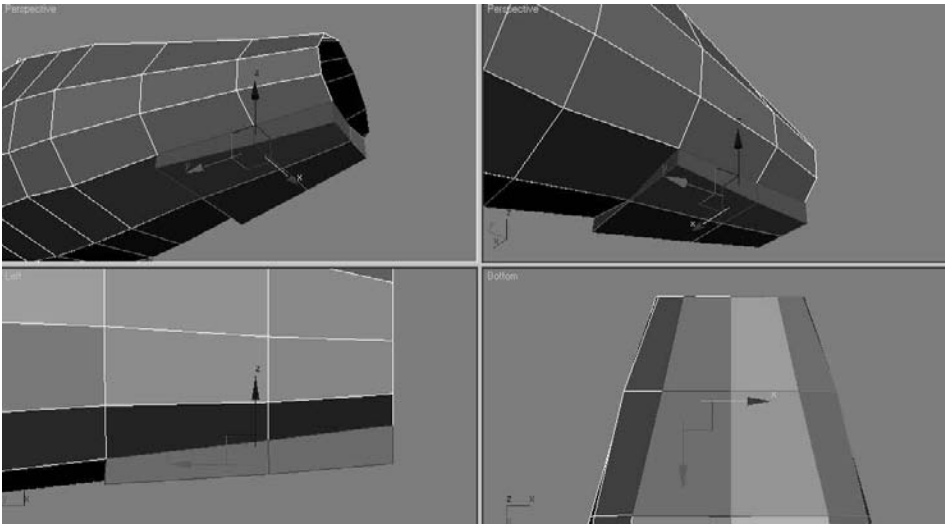

Figure 5.55
4. Go into Vertex mode and adjust the extruded polygons of the back axle so that they have the shape of the axle from the Side View image plane, as shown in Figure 5.55.